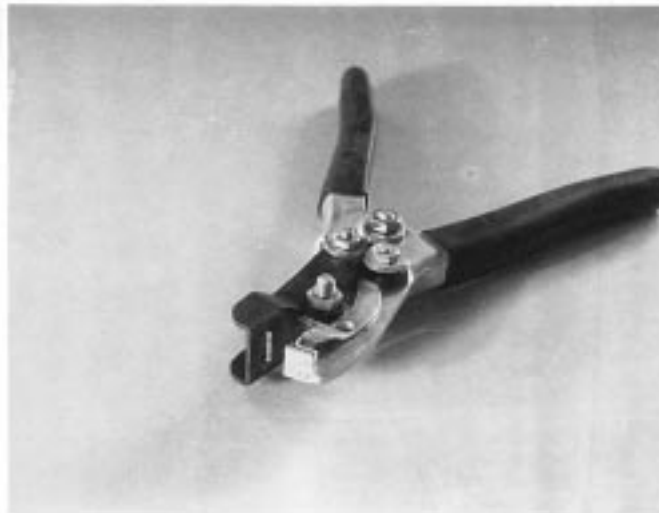

FIG. 3 Nailslot Punch
3.2.5 *nailslot punch*—a special hand tool used to create slots for attachment of field-modified siding or accessories. (See Fig. 3.)